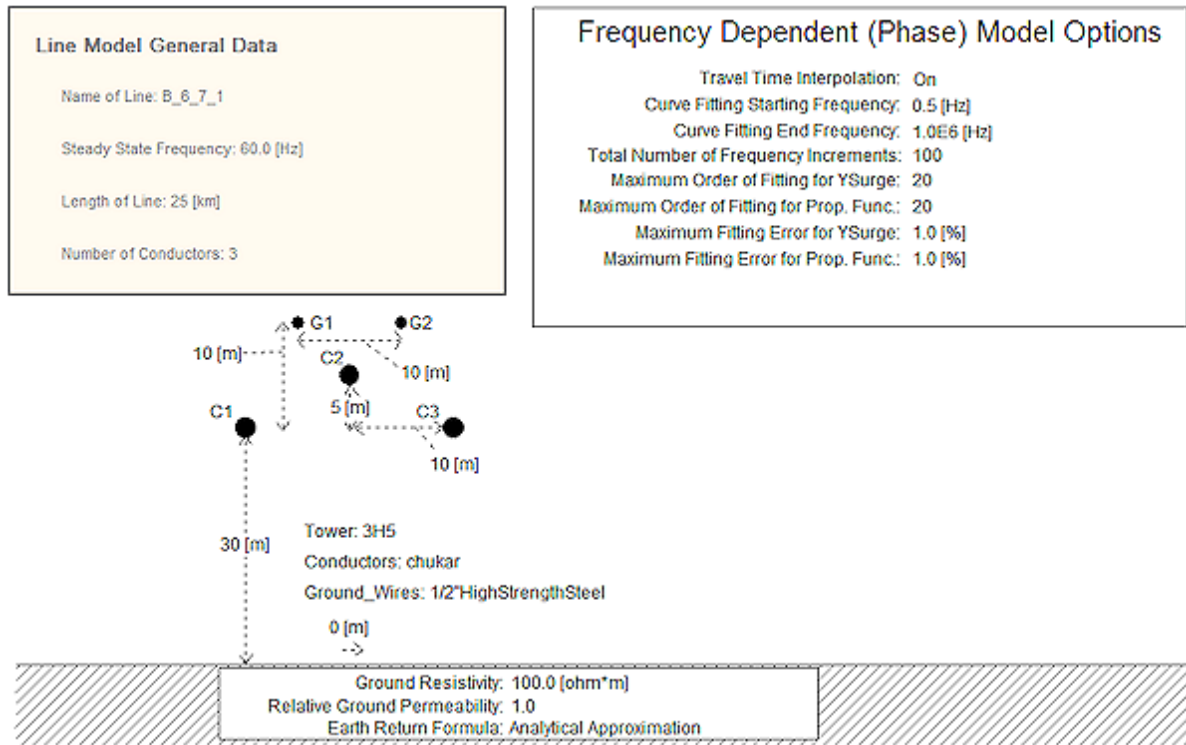

Figure 5.6 The sub-page of a Frequency Dependent (Phase) Model Options.
2. Double click the transmission line interface, then click “Edit...” to go to the sub-page. Enter the line geometry and parameters in the sub-page. The sub-page may appear as shown in Figure 5.6.